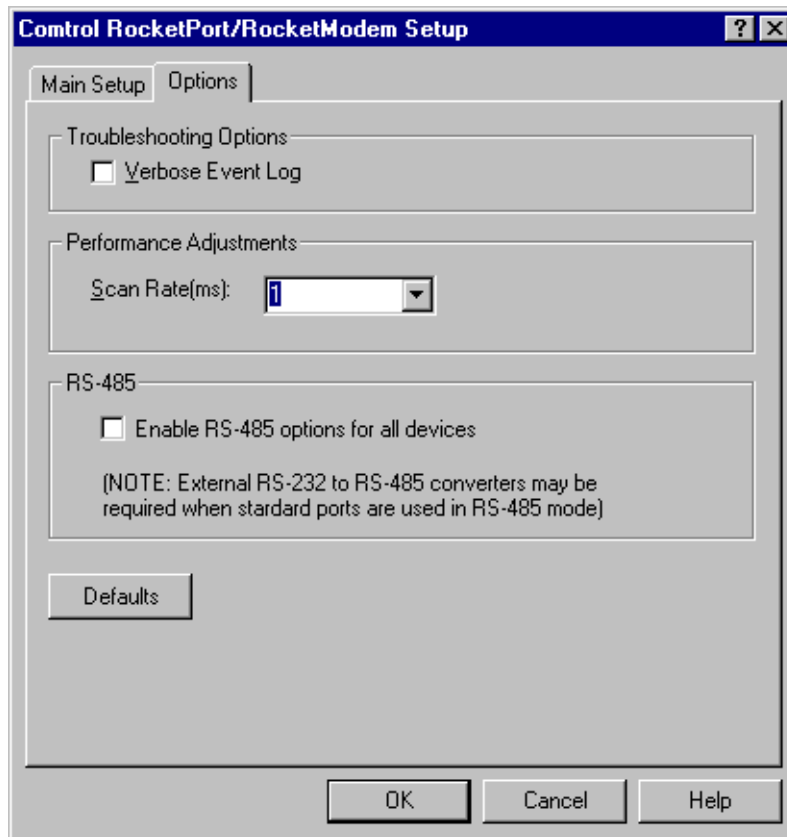

Figure 9. Set the scan rate to 1ms.
14. In the **Options** tab (see Figure 9), set the **Scan Rate(ms)** to 1ms.